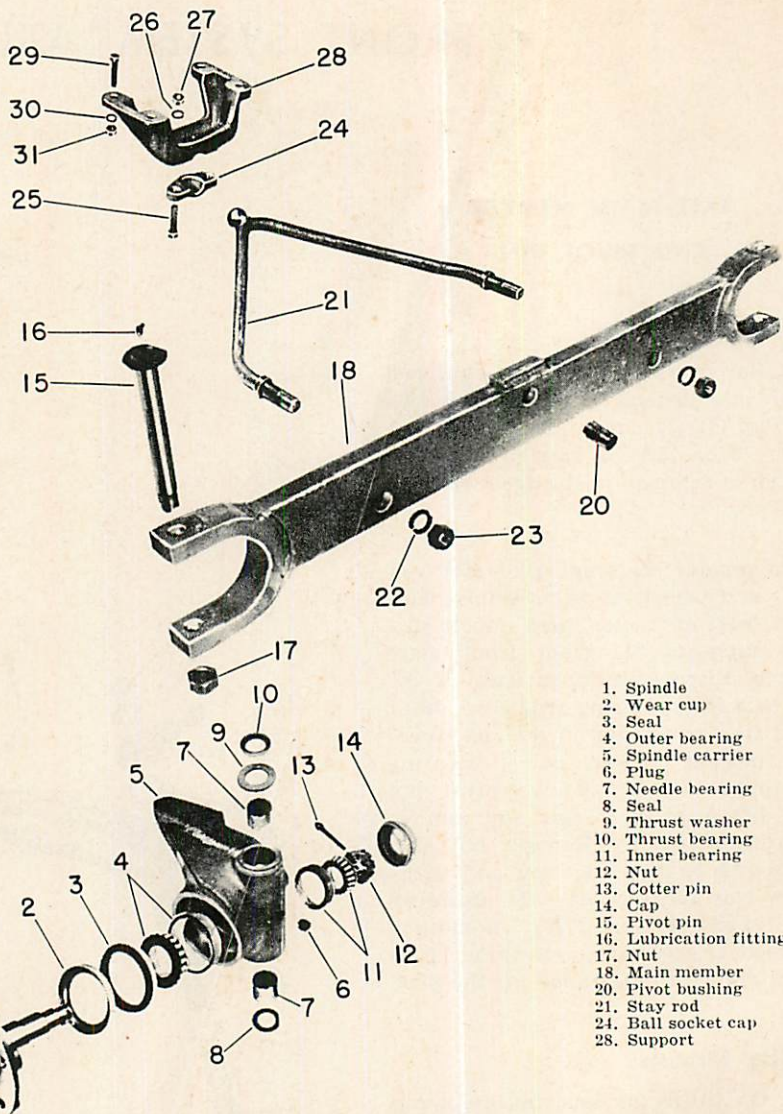
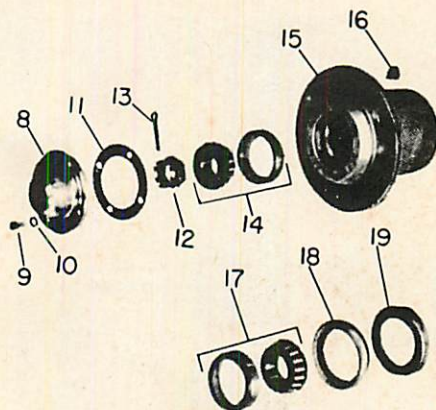

Fig. O3 — Exploded view of Industrial non-adjustable, live (rotating) spindle front axle. Wheatland axle assembly is similar except main member (18) is arched.
Fig. O4 — Exploded view of front wheel hub, bearing and seal assembly used on Rowcrop and Utility models.
6. **SPINDLES.** Front wheels on Wheatland and Industrial models are attached to live (rotating) spindles (1—Fig. O3) which are carried in tapered roller bearings mounted in the spindle carriers (5). Spindles can be removed by removing the cap (14) from inner side of spindle carrier and removing the cotter pin (13) and slotted nut (12) from inner end of
7. **SPINDLE CARRIERS.** To renew the spindle carrier pivot pin (15—Fig. O3) and/or pivot pin needle bearing (7), first remove wheel and disconnect tie rod outer end from carrier. Remove nut (17) from bottom end of pivot pin and drive the pin up out of axle (18) and carrier. Drive bearings (7) from carrier and install new bearings by driving or pressing on lettered side of cage only. To renew carrier, remove spindle as outlined in paragraph 6. When reassembling, renew seal (8) and, if damaged, renew thrust bearing (10) and washer (9). Refer to paragraph 8 for wheel bearing and seal information.
8. Refer to Fig. O4 for exploded view of Rowcrop and Utility model front wheel bearing and seal installation and to Fig. O3 (items 1 through 14) for Wheatland and Industrial models.
To install new seal (3—Fig. O3, or 18—Fig. O4), first apply thin coat of gasket sealer to outer metal rim of seal. On Rowcrop or Utility model, install seal in wheel hub (15—Fig. O4) with Oliver ST-97 or ST-145 Seal Driver and ST-125 Mandrel or equivalent tool. On Wheatland or Industrial model, install seal in spindle carrier (5—Fig. O3) with Oliver ST-123 or ST-146 Seal Driver and ST-125 Mandrel or equivalent tool. Apply thin coat of gasket sealer to inside of seal wearing cup (19—Fig. O4, or 2—Fig. O3) and install wearing cup on spindle using Oliver ST-98 Driver on Rowcrop or Utility model, or ST-124 Driver on Wheatland or Industrial model. Face of cup must be smooth and flat after installation.
When reassembling, wheel hub or spindle carrier and bearings should be packed with ½-pound of lithium or calcium base multi-purpose grease. Threads of plug (16—Fig. O4) in wheel hub or (6—Fig. O3) in spindle carrier should be coated with gasket sealer or white lead if plug has been removed.
pin can be installed. Bearing adjustment is correct when torque of 20 inch-pounds is required to rotate wheel. Renew gasket (11—Fig. O4) when installing cap on Rowcrop or Utility model hub.